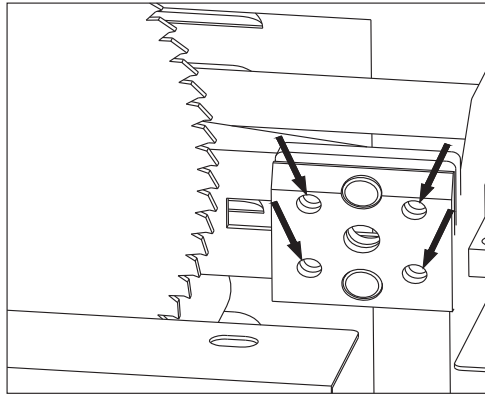

Fig.17 (set screw for adjusting riving knife)
6. Use the set screws shown in **Figure 17** to adjust the riving knife bracket and re-install the riving knife.